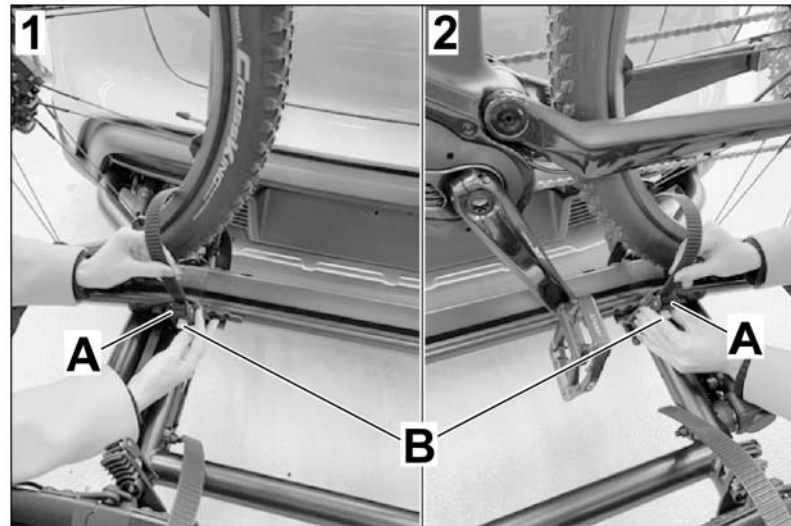

Figure 20
20. – Secure the front and rear wheels with the latches on the wheel rail ⇒ *Figure 20-LHD vehicle* - and insert and tension the locking strap. When loosening the locking strap, keep the grey lock ⇒ *Figure 20-RHD vehicle* - pressed and loosen the locking strap.